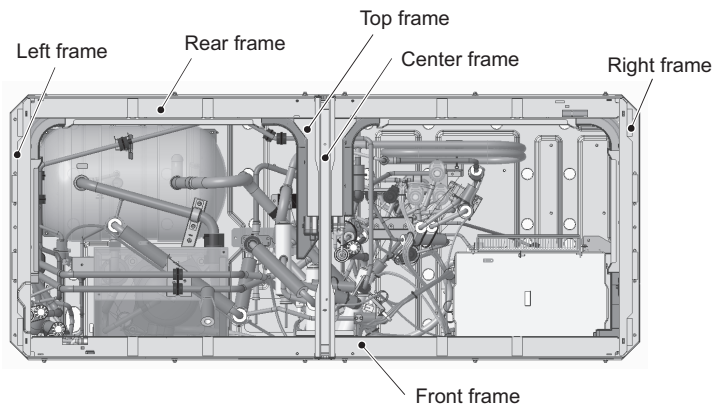

Figure 18
To remove the rear heat exchanger, remove the braze from four areas. (See Figures 18 and 19.)
Removing the high-efficiency rear heat exchanger (Figure 18)
- (17) To remove the front heat exchanger, first remove the front, left, right, and center frames by unscrewing the 16 screws. (See Figure 18.)
To remove the right and left rear heat exchangers, remove the top and the rear frames in addition to the front, left, right, and center frames by unscrewing the 21 screws. (See Figure 18.)
To remove the left rear heat exchanger, unscrew the following screws: The screws on the left side of the left pillar in the front, and the screws on the center pillar in the back. (12 screws, Figures 18 and 19)